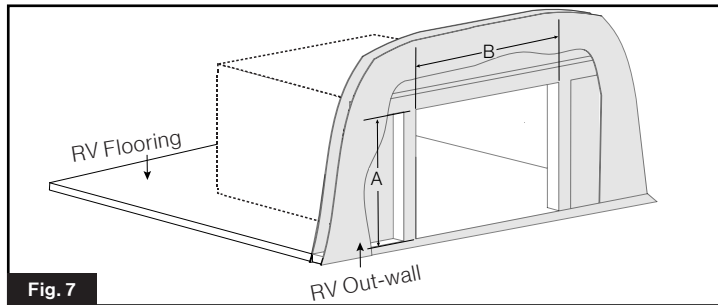

Fig. 7
1. Determine your existing cut-out and choose the appropriate door assembly. (Fig. 7)